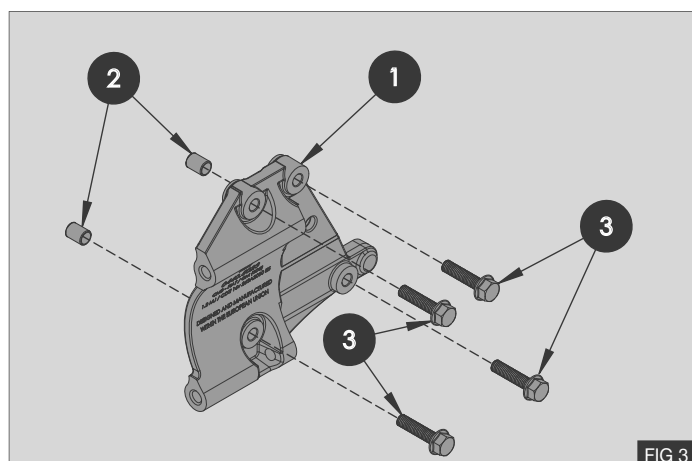

FIG 3
3. Fit the two supplied dowel bushes **(2)** to the mount bracket **(1)** - Fig 3
4. Fit the mount bracket assembly **(1)** to the engine block using four M8 x 35 Flange Bolts **(3)** - Fig 3